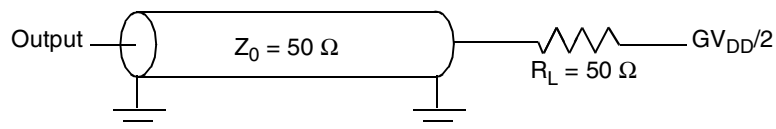
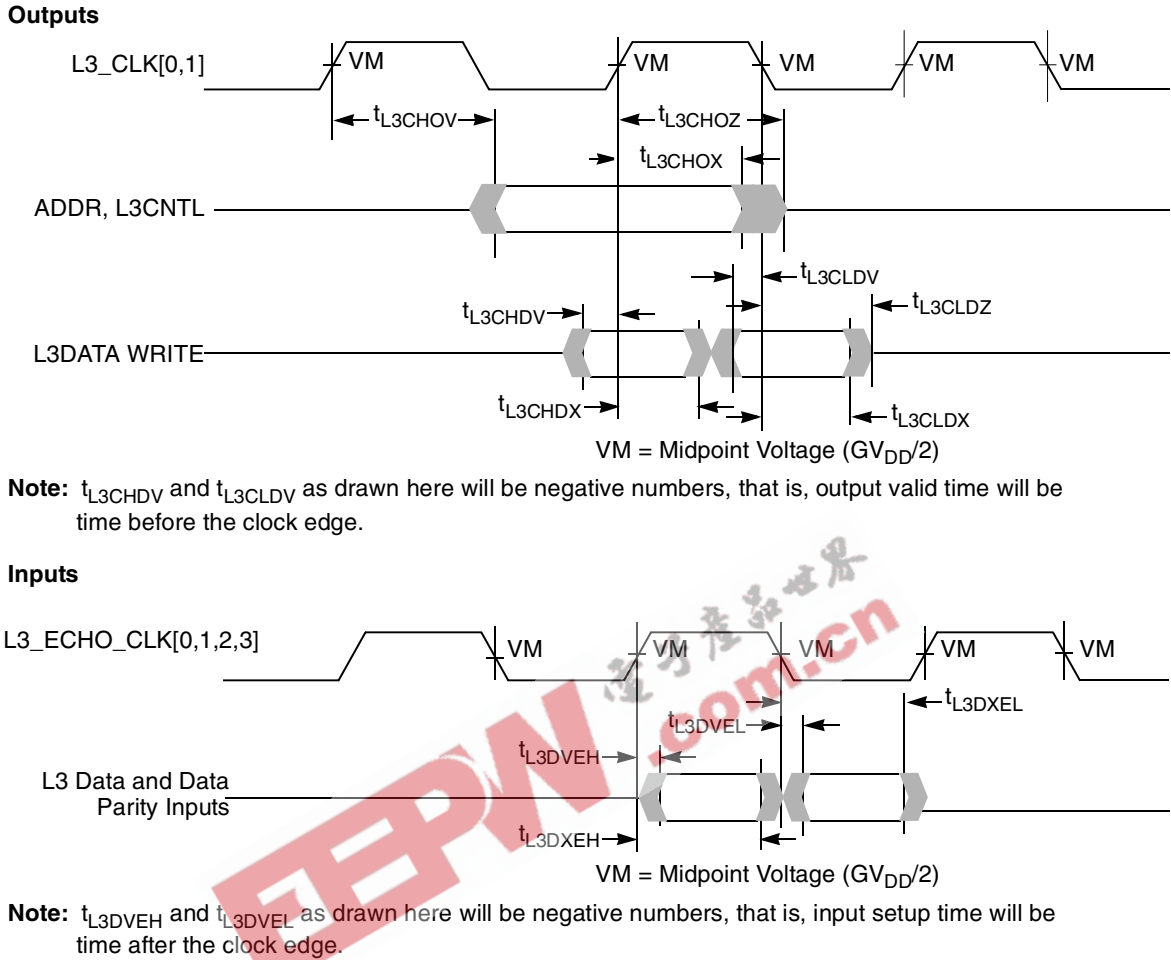
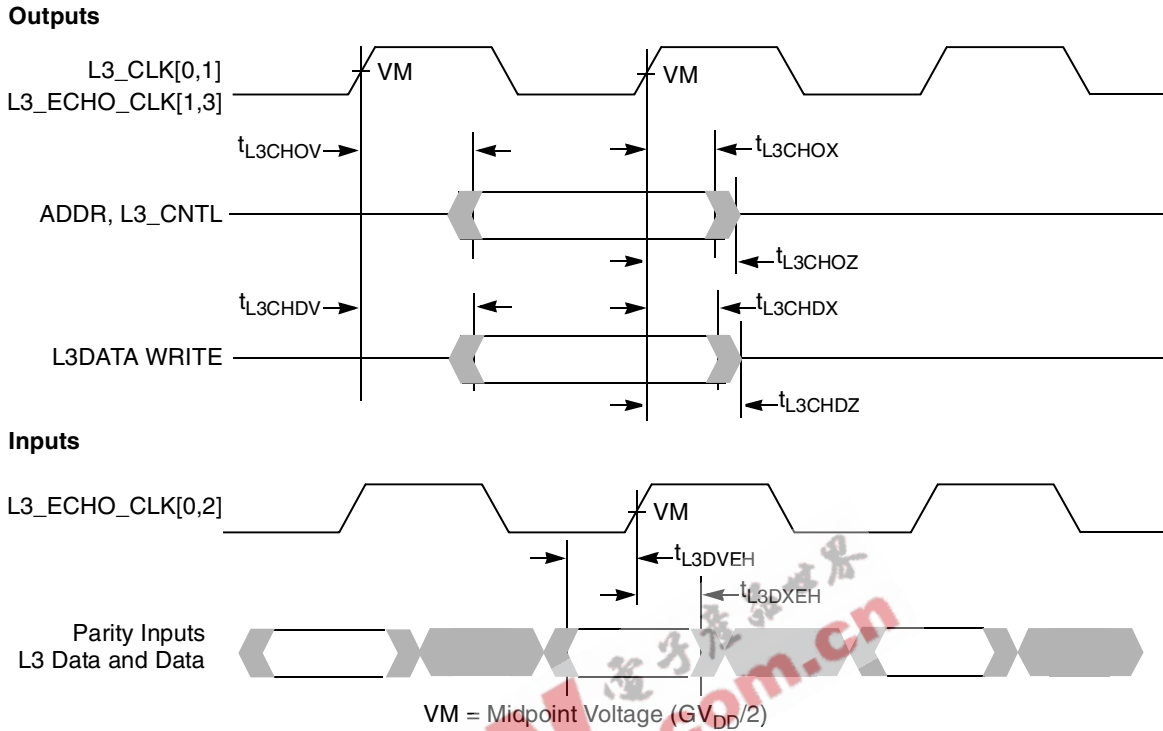

Figure 8. AC Test Load for the L3 Interface
Figure 10. L3 Bus Timing Diagrams for L3 Cache DDR SRAMs
Figure 12. L3 Bus Timing Diagrams for Late Write or PB2 SRAMs
- For high speed operations, L3 interface address and control signals should be a 'T' with minimal stubs to the two loads; data and clock signals should be point-to-point to their single load. Figure 8 shows the AC test load for the L3 interface.
Table 12 provides the L3 bus interface AC timing specifications for the configuration as shown in Figure 9, assuming the timing relationships shown in Figure 10 and the loading shown in Figure 8.
2. For DDR, all input specifications are measured from the midpoint of the signal in question to the midpoint voltage of the rising or falling edge of the input L3_ECHO_CLK_n (see Figure 10). Input timings are measured at the pins.
3. For DDR, the input data will typically follow the edge of L3_ECHO_CLK_n as shown in Figure 10. For consistency with other input setup time specifications, this will be treated as negative input setup time.
5. All output specifications are measured from the midpoint voltage of the rising (or for DDR write data, also the falling) edge of L3_CLK to the midpoint of the signal in question. The output timings are measured at the pins. All output timings assume a purely resistive 50-Ω load (see Figure 8).
6. For DDR, the output data will typically lead the edge of L3_CLK_n as shown in Figure 10. For consistency with other output valid time specifications, this will be treated as negative output valid time.
Figure 10 shows the L3 bus timing diagrams for the MPC7455 interfaced to MSUG2 SRAMs.
Table 13 provides the L3 bus interface AC timing specifications for the configuration shown in Figure 11, assuming the timing relationships of Figure 12 and the loading of Figure 8.
2. All input specifications are measured from the midpoint of the signal in question to the midpoint voltage of the rising edge of the input L3_ECHO_CLK_n (see Figure 10). Input timings are measured at the pins.
3. All output specifications are measured from the midpoint voltage of the rising edge of L3_CLK_n to the midpoint of the signal in question. The output timings are measured at the pins. All output timings assume a purely resistive 50-Ω load (see Figure 10).
Figure 12 shows the L3 bus timing diagrams for the MPC7455 interfaced to PB2 or late write SRAMs.